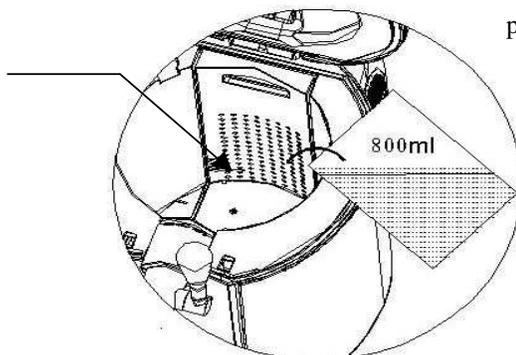

Figure 8
5. Put 800ml (27-oz) of water into the cooling cavity. Do not pour the water past the max mark. (Show as figure 8) Unit can work without water, but cooling performance is best when used with water.